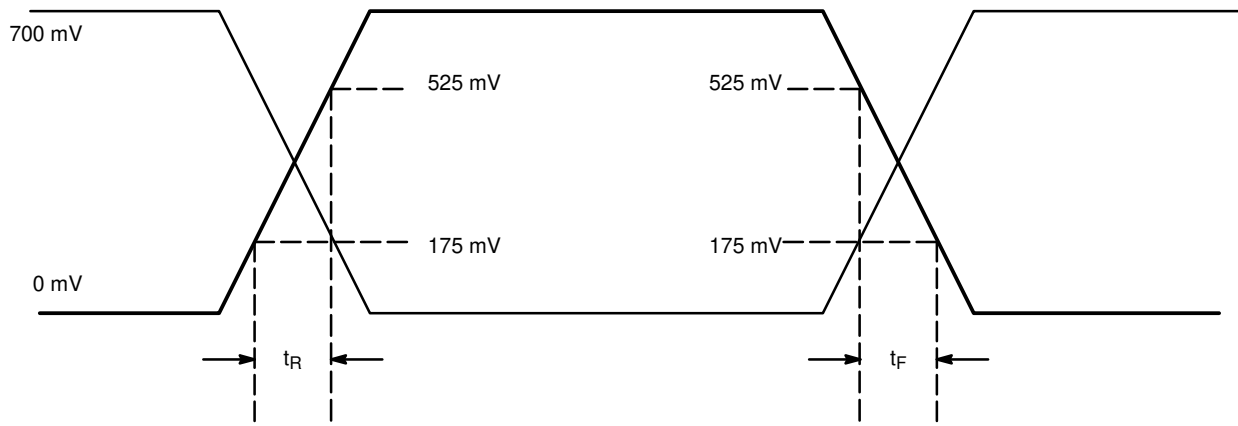

Figure 11. HCSL Output Parameter Characteristics
| t_R | Output Risetime (Measured from 175 mV to 525 mV, Figure 11) | 175 | | 700 | ps |
| t_F | Output Falltime (Measured from 525 mV to 175 mV, Figure 11) | 175 | | 700 | ps |
18. VDDXD and VDDODA power pins must be shorted to power supply voltage V_{DD} and GNDXD and GNDODA ground pins must be shorted to power supply ground GND. Measurement taken from differential output on single-ended channel terminated with $R_S = 33.2\ \Omega$, $R_L = 50\ \Omega$, with test load capacitance of 2 pF and current biasing resistor set at 475 Ω . See Figure 11. This parameter is guaranteed by characterization. Not tested in production.